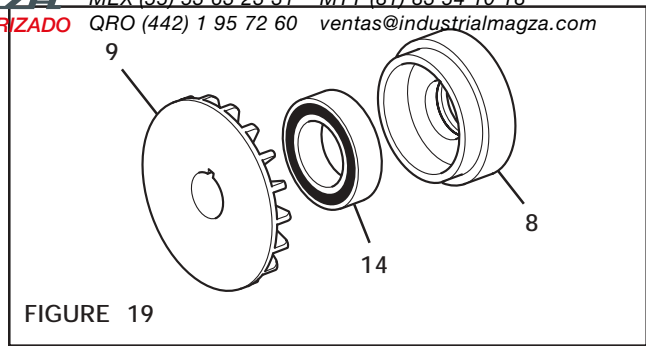

FIGURE 19
10. Fully support the Air Chamber (Item 8) and press the Clutch Friction Disc (Item 9) out of the Air Chamber (See Figure 19).
11. Clean the bearing bore of the Air Chamber (Item 8) with fresh safety solvent, making sure all old Loctite® residue is removed (See Figure 19).
12. Apply an adequate amount of Loctite® 680 to evenly coat the outer race of the new Ball Bearing (Item 14). (See Figure 19).
13. Carefully align the O.D. of the new Ball Bearing (Item 14) with the bore of the Air Chamber (Item 8) and press the new Ball Bearing into place (See Figure 19).
14. Carefully align the hub of the Clutch Friction Disc (Item 9) with the bore of the new Ball Bearing (Item 14) and press the Clutch Friction Disc into the new Ball Bearing and Air Chamber (Item 8) (See Figure 19).